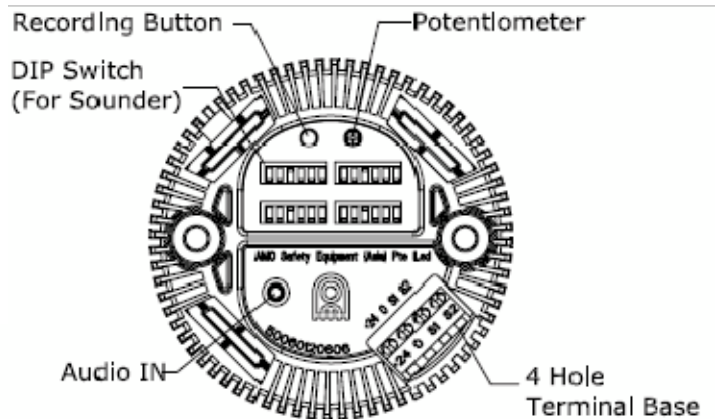

Fig 6
**Sounder:** (See Fig 6)
As same as above Sounder in Single Unit (See Fig 6)
Use the four (4) DIP switches with 6 binary codes on the **Sounder PCB** to select tones (See Fig 6).
The SB125 has a volume control to adjust the output volume of the sounder component. To set the required output volume, adjust the potentiometer-VR1 on the PCB (See Fig 6). The potentiometer should be set to fully clockwise position if maximum output volume is needed.